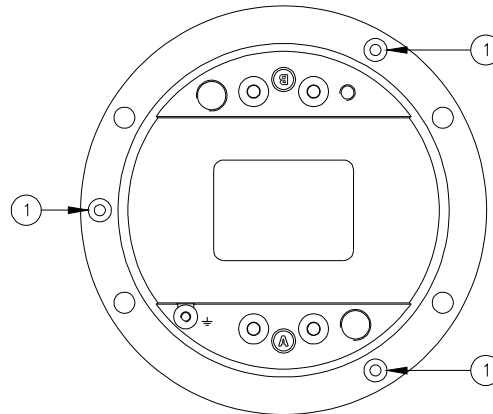
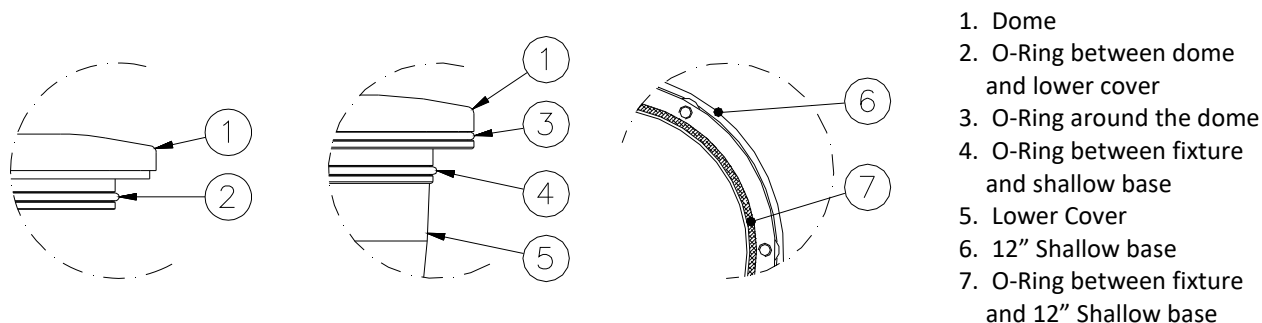

Figure 23 - Lower Cover Fixing Screws
Figure 25 – Fixture Gaskets
- Open the fixture by unscrewing the three locking screws TORX M5x10 (Figure 23 - n°1).
- three locking screws TORX M5x10 (Figure 23 - n°1);
- O-Rings between dome and lower cover (Figure 25 – n°2);
Verify the correct position of O-Ring between dome and lower cover (Figure 25 – n°2);, mount the lower cover on the dome and fasten it by means the three screws TORX M5x10 (Figure 23 - n°1). One drop of anaerobic adhesive lower type (e.g. LOXEAL 24-18) should be applied to the screws before installation; tightening torque is 2.5 Nm.
- O-Ring around the dome (Figure 25 – n°3);
- O-Ring between fixture and 8" shallow base (Figure 25 – n°4);
- O-Ring between fixture and 12" shallow base (Figure 25 – n°7);